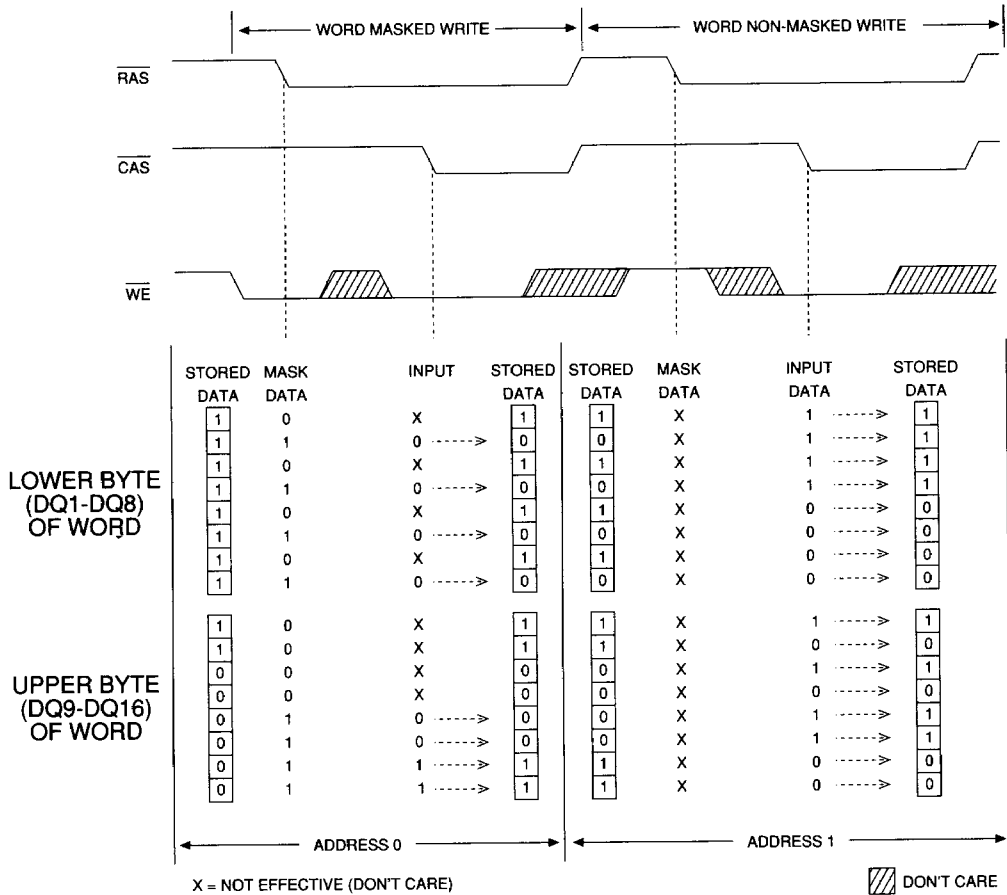

Figure 2
Figure 2 illustrates the MT4C1671 MASKED WRITE operation (Note: $\overline{\text{RAS}}$ or $\overline{\text{CAS}}$ time refers to the time at which $\overline{\text{RAS}}$ or $\overline{\text{CAS}}$ transition from HIGH to LOW).
1. Data-in will be dependent on the mask provided. Refer to Figure 2.